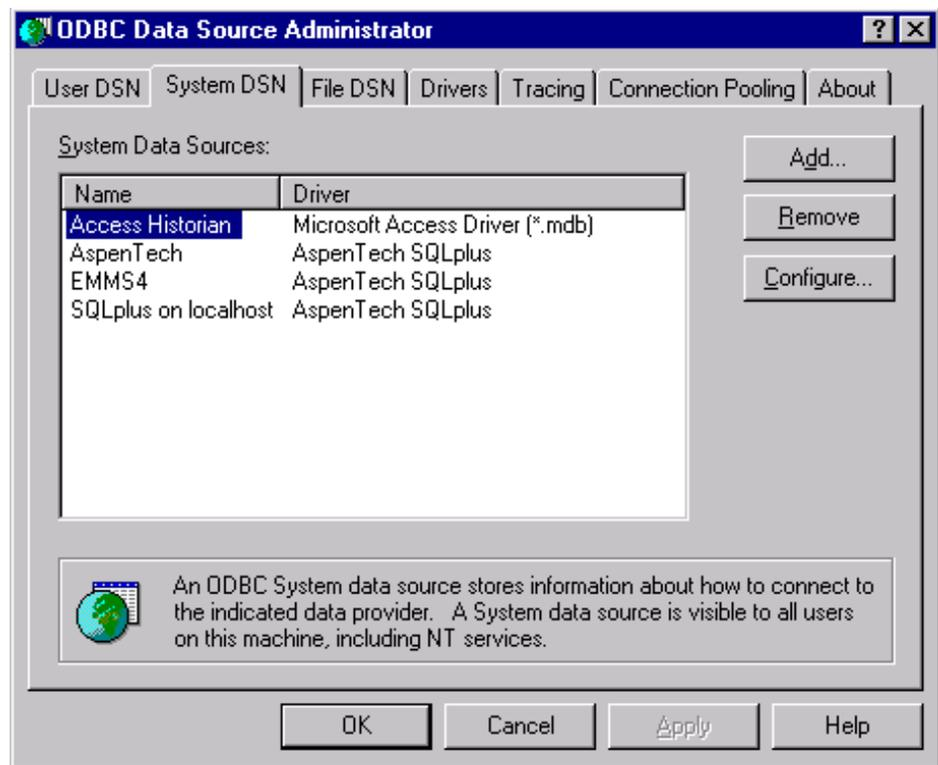

Figure A-1: ODBC Data Source Administrator Dialog Box - System DSN Tab Selected
2. Click New... The ODBC Data Source Administrator dialog box appears (Figure A-1).
8. Click OK. The ODBC Data Source Administrator dialog box reappears (Figure A-1). The Database connection you just defined should be one of the user data sources listed.